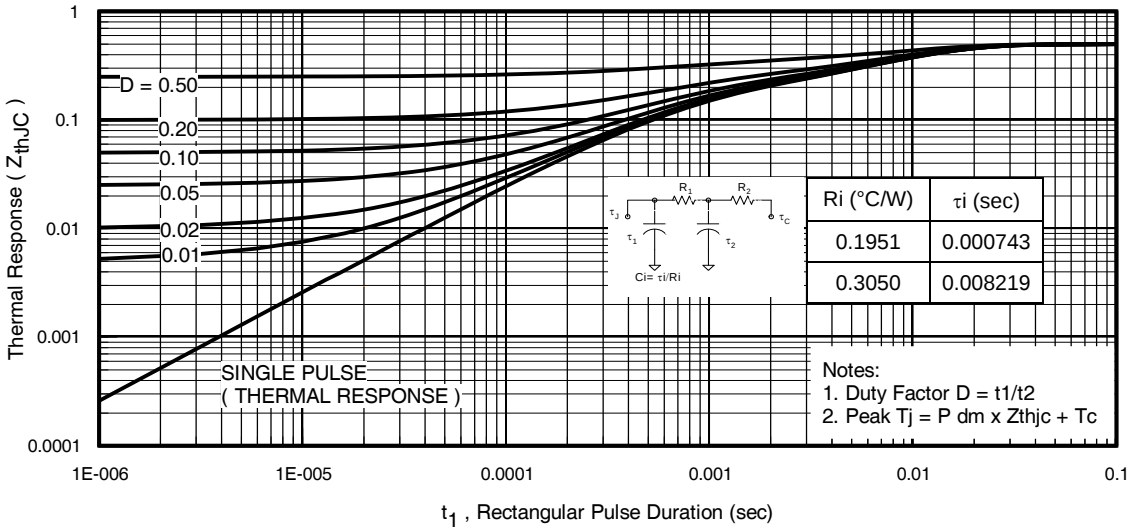
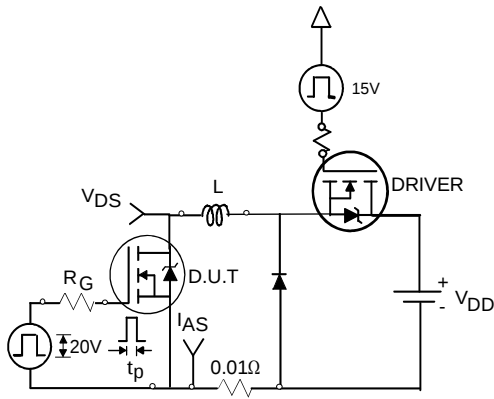

Fig 11. Maximum Effective Transient Thermal Impedance, Junction-to-Case
Fig 12a. Unclamped Inductive Test Circuit
- ① Calculated continuous current based on maximum allowable junction temperature. Package limitation current is 240A. Note that current limitations arising from heating of the device leads may occur with some lead mounting arrangements. (Refer to AN-1140)
- ② Repetitive rating; pulse width limited by max. junction temperature. (See fig. 11).
- ③ Limited by T_{Jmax}, starting T_J = 25°C, L = 0.049mH, R_G = 25Ω, I_{AS} = 160A, V_{GS} = 10V. Part not recommended for use above this value.
- ④ Pulse width ≤ 1.0ms; duty cycle ≤ 2%.
- ⑤ C_{oSS} eff. is a fixed capacitance that gives the same charging time as C_{oSS} while V_{DS} is rising from 0 to 80% V_{DSS}.
- ⑥ Limited by T_{Jmax}, see Fig.12a, 12b, 15, 16 for typical repetitive avalanche performance.
- ⑦ This value determined from sample failure population, starting T_J = 25°C, L = 0.049mH, R_G = 25Ω, I_{AS} = 160A, V_{GS} = 10V.
- ⑧ This is applied to D2Pak, when mounted on 1" square PCB (FR-4 or G-10 Material). For recommended footprint and soldering techniques refer to application note # AN-994.
- ⑨ R_θ is measured at T_J of approximately 90°C.
3. Equation below based on circuit and waveforms shown in Figures 12a, 12b.
$Z_{thJC}(D, t_{av})$ = Transient thermal resistance, see Figures 11)